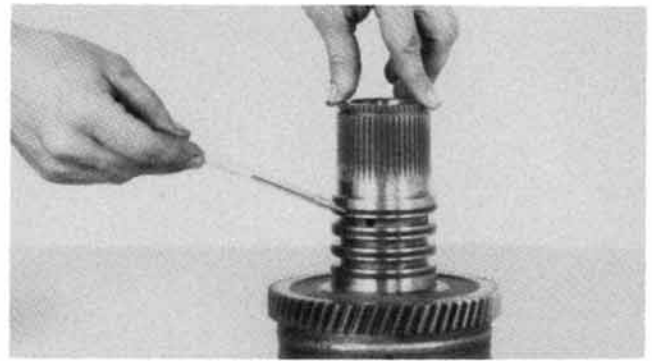

Figure 152
Install Belleville washers. First washer with large diameter toward spacer. Alternate seven (7) washers. See Figure 152-A.